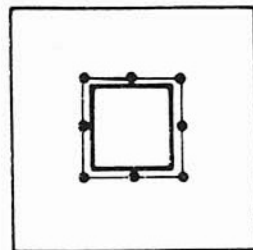

Figure 30 Rough file square hole
- 3 Roughly file the drilled hole to an undersized square hole (Fig. 30).